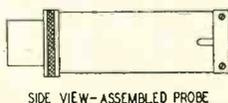

Fig. 1—Probe assembly for phototube.
**T**HE probe assembly for the phototube is shown in Fig. 1 and the photographs. It was made for a previous model and is unnecessarily elaborate for use here. Considerable machine work is necessary and the job was turned over to a local machinist.